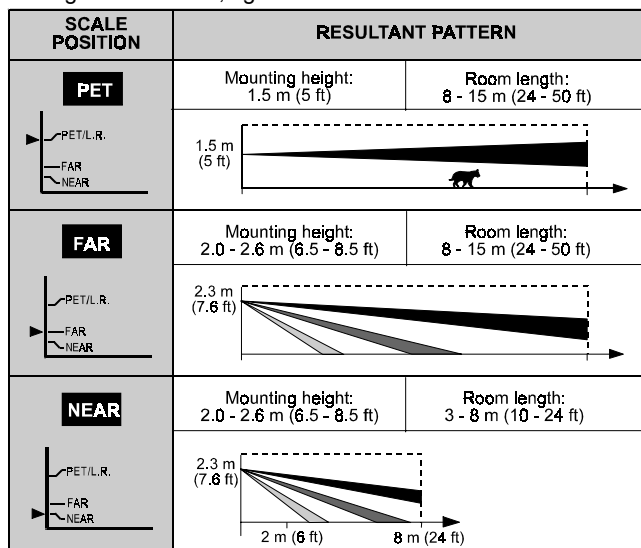

Figure 15. Vertical Adjustment
2. With the detector tilted down, the side view patterns shown in Figure 15 do not apply. The actual coverage must be tested very carefully.
Refer to Figure 15. Slacken the vertical adjustment screw and slide the printed circuit board up or down to obtain the desired coverage. When done, tighten the screw well.